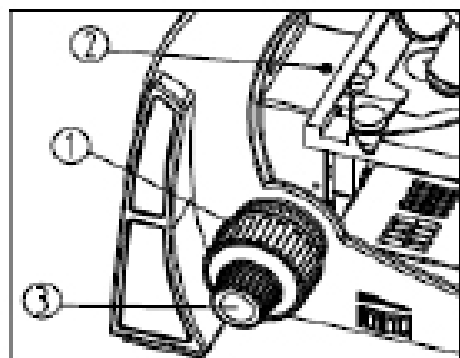

Fig. 10
### Focus Adjustment (Fig 10)
2. Observe specimen through the eyepieces. Rotate the coarse focusing knob (1) until the image appears in focus in the view field of view (See Fig.10).
3. Rotate the fine focus knob (3) until the image is in clear focus.